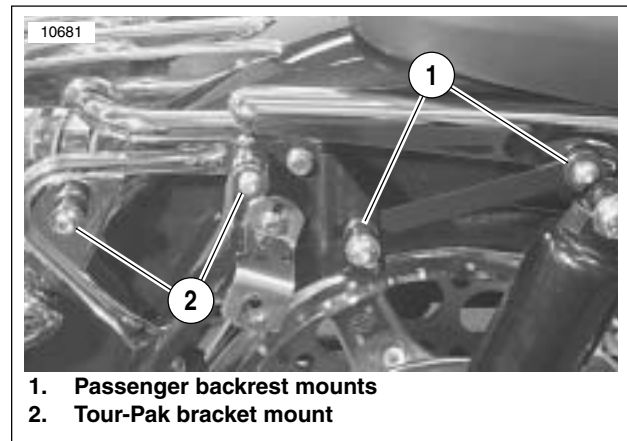

Figure 7-25. Passenger Backrest and Tour-Pak Docking Locations
See Figure 7-25. The passenger backrest assembly mounts on the two forward mounting points (1) on each side of the vehicle when the Tour-Pak is not installed.
See Figure 7-25. Mount the passenger backrest assembly on the two forward mounting points (1) on each side of the vehicle.